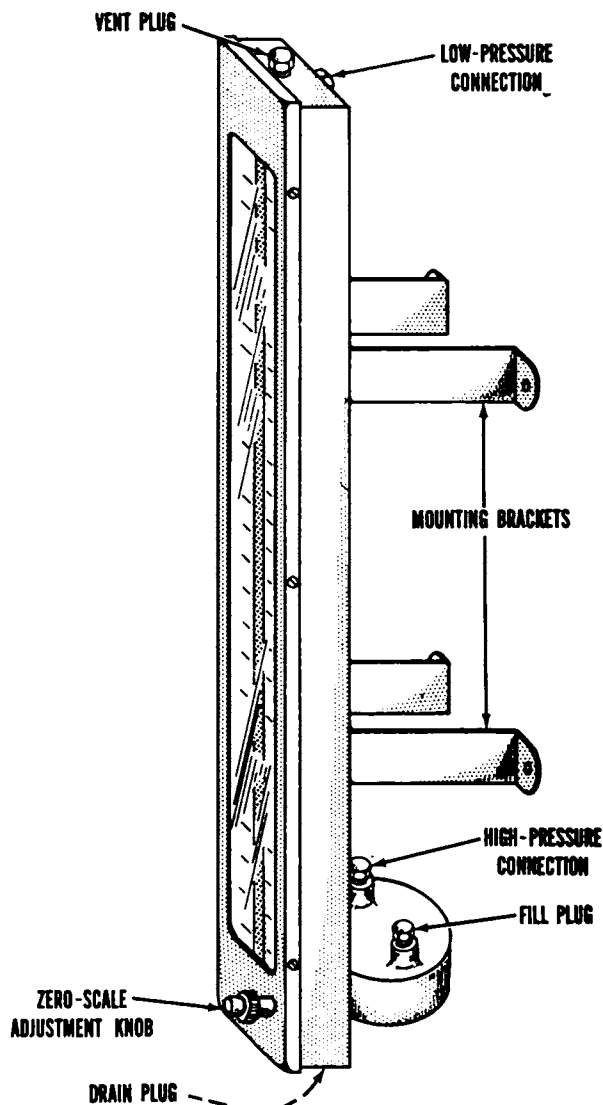

Figure 52. Manometer.
a. Description. The manometer (fig. 52) is mounted on the left wall of the laboratory compartment. Of well-type design, the manometer consists of a glass column supported within a frame and connected at the bottom by a U-shaped tube to the manometer fluid reservoir. Calibrated in inches of mercury, the manometer scale has a range of 20 inches of mercury.